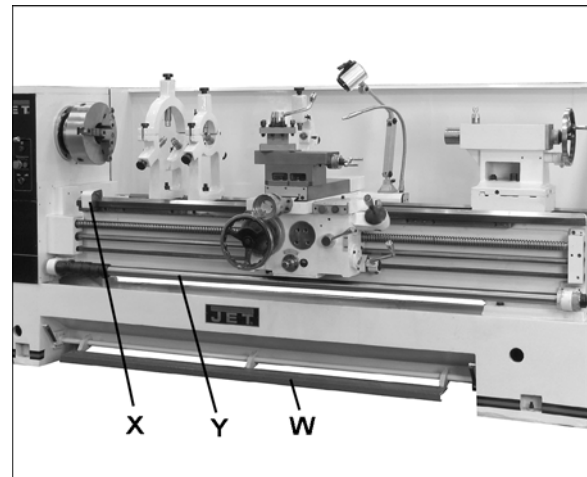

Figure 28 – Other controls
19. **Foot Brake** (W, Figure 28): For emergency shutdown of all lathe functions. The connecting rod mechanism is in the bed stand, and activates a brake strap at the main motor. (**Caution:** Lathe still has power.)
20. **Manual Carriage Stop** (X, Figure 28): Can be used during manual feed operation to limit carriage travel. *NOTE: It is not intended to stop the carriage during automatic feed.* The carriage stop can be repositioned along the bed by loosening the two screws underneath the stop.
21. **Travel Setting Rod** (Y, Figure 28): Up to six pre-set configurations are possible for repetitive operations, without having to reposition the stops each time. Use the knurled knob at the right end of the rod to set the rod at one of six positions shown on the dial. Then move the desired number of eccentric stops into position for that particular operation and tighten them securely to the rod with the screws beneath them. When the apron trip lever contacts a stop, the clutch will disengage.